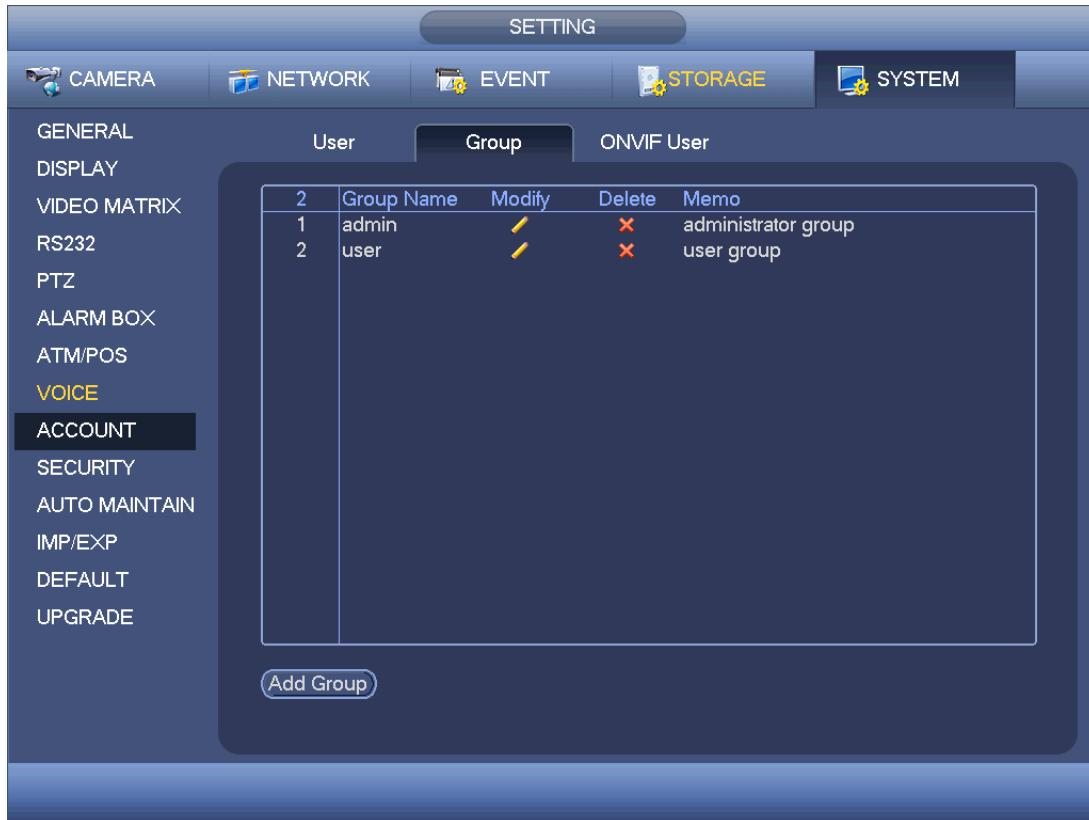

Figure 4-224
Enter add group interface. See Figure 4-224.
Step 2 Click add group button in Figure 4-224.